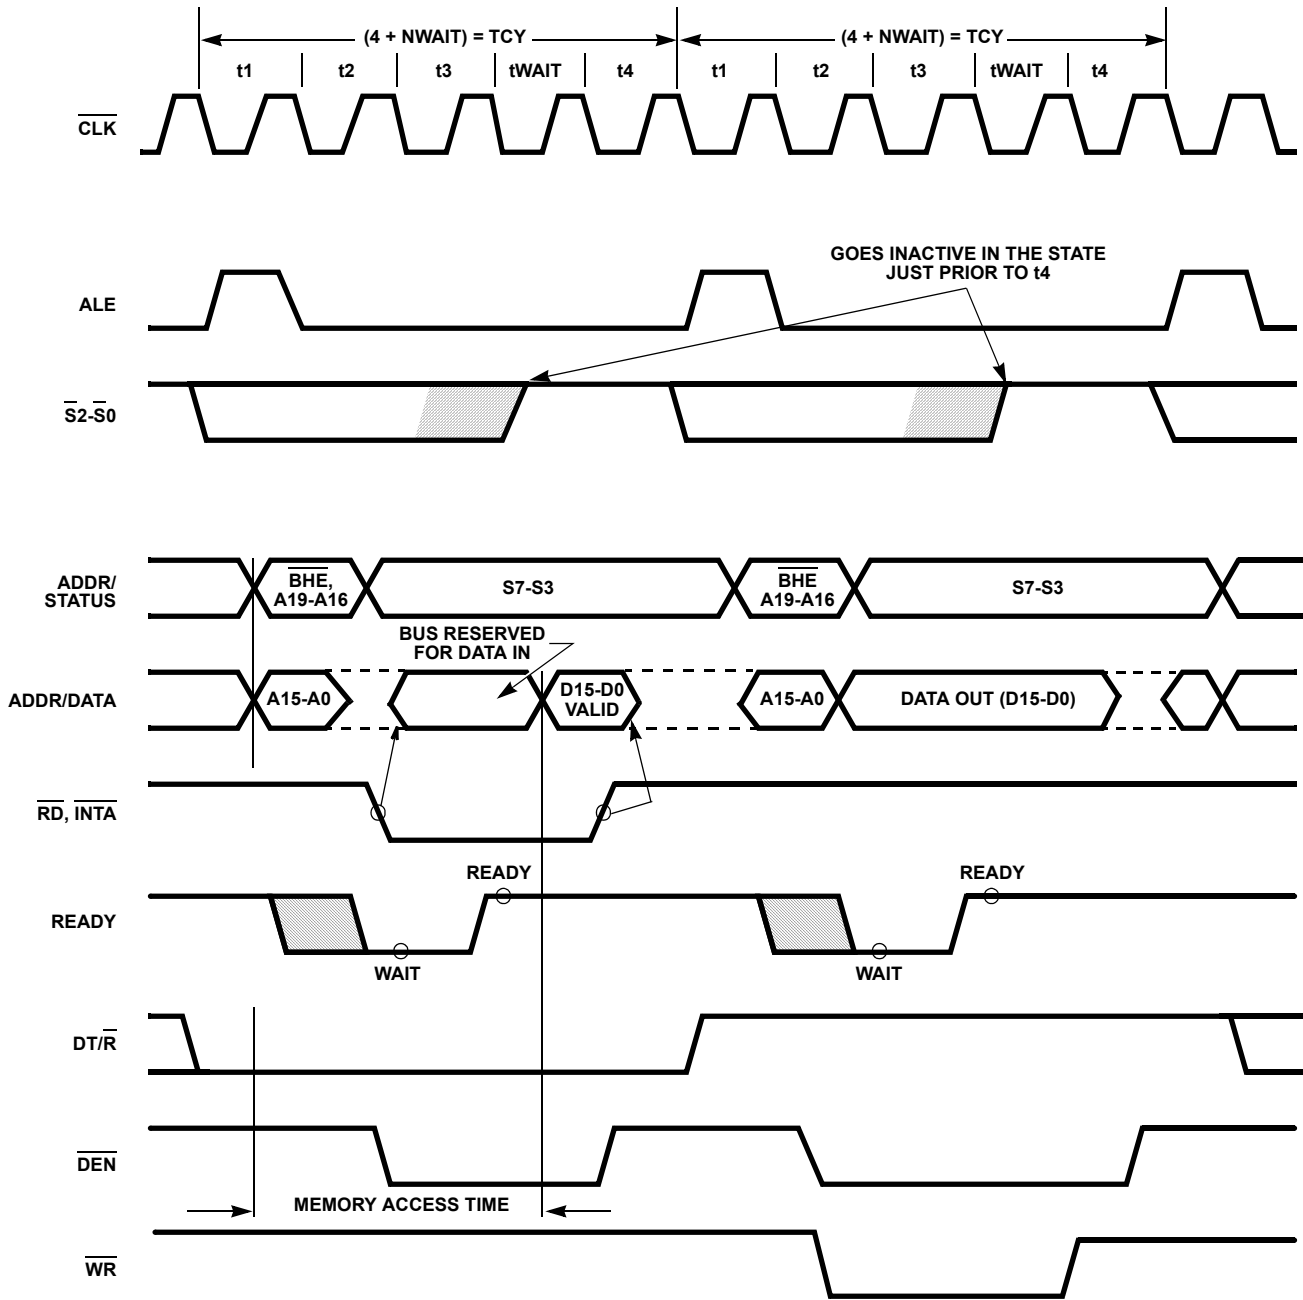
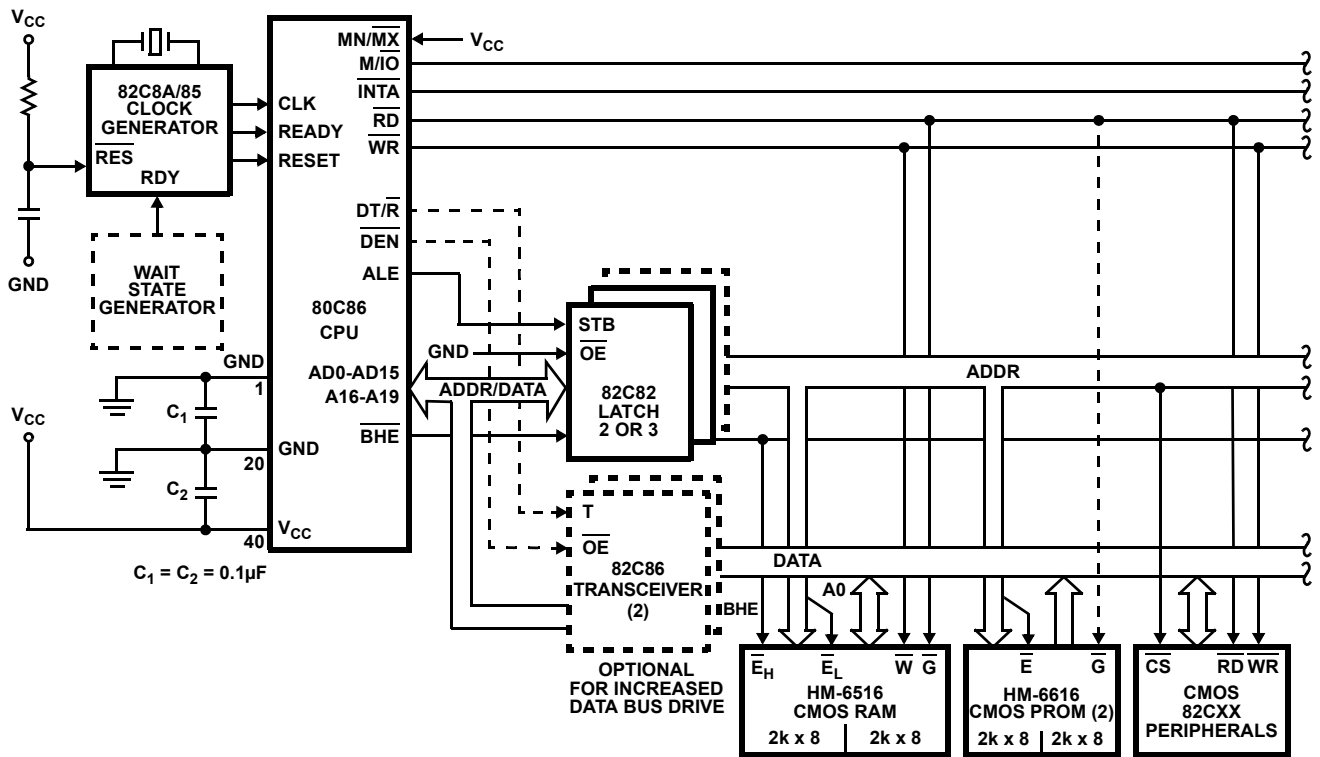

FIGURE 4. BASIC SYSTEM TIMING
FIGURE 7A. MINIMUM MODE 80C86 TYPICAL CONFIGURATION
The demultiplexed mode requires two 82C82 latches (for 64k addressability) or three 82C82 latches (for a full megabyte of addressing). An 82C86 or 82C87 transceiver can also be used if data bus buffering is required (see Figure 7A on page 16.) The 80C86 provides  $\overline{\text{DEN}}$  and  $\overline{\text{DT/R}}$  to control the transceiver, and ALE to latch the addresses. This configuration of the minimum mode provides the standard demultiplexed bus structure with heavy bus buffering and relaxed bus timing requirements.
Each processor bus cycle consists of at least 4 CLK cycles. These are referred to as t1, t2, t3, and t4 (see Figure 4 on page 12). The address is emitted from the processor during t1 and data transfer occurs on the bus during t3 and t4. t2 is used primarily for changing the direction of the bus during read operations. In the event that a "NOT READY" indication is given by the addressed device, "Wait" states (tW) are inserted between t3 and t4. Each inserted wait state is the same duration as a CLK cycle. Periods can occur between 80C86 driven bus cycles. These are referred to as "idle" states (TI) or inactive CLK cycles. The processor uses these cycles for internal housekeeping and processing.
Typical system configurations for the processor operating in minimum mode and in maximum mode are shown in Figures 7A and 7B on page 16, respectively. In minimum mode, the MN/MX pin is strapped to  $V_{CC}$  and the processor emits bus control signals (that is,  $\overline{RD}$ ,  $\overline{WR}$ , etc.) directly. In maximum mode, the MN/MX pin is strapped to GND and the processor emits coded status information which the 82C88 bus controller uses to generate MULTIBUS compatible bus control signals. Figure 4 on page 12 shows the signal timing relationships.